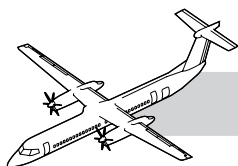

Figure 57-21. Flap LH Inner Tape
- Figure 57-21. Flap LH Inner Tape.